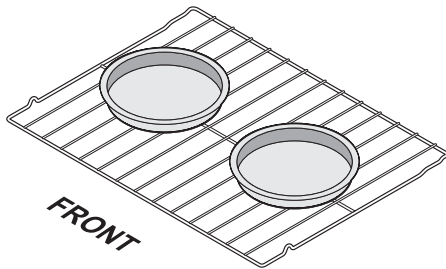

Figure 10: Baking with a single rack
- When baking using one oven racks, position bakeware as shown in Figure 10. Allow at least 2 inches (5 cm) of space between bakeware for proper air circulation.